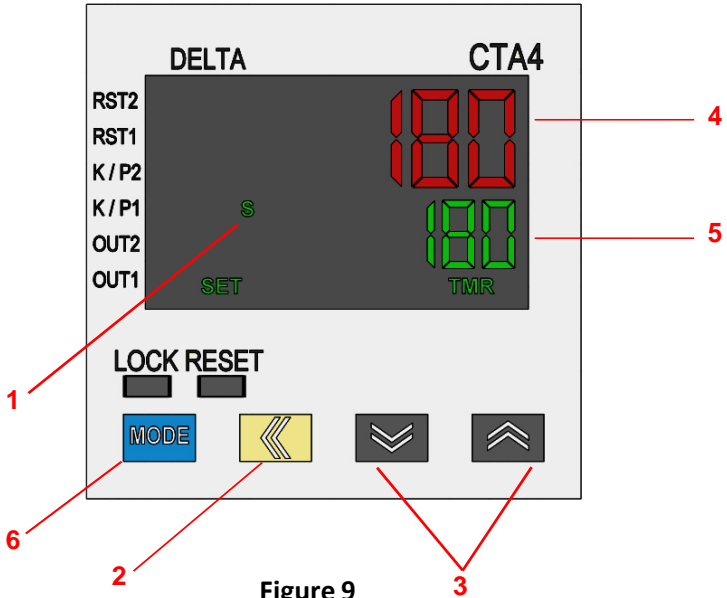

Figure 9
3. Press the yellow, left arrow button (Item 2, Figure 9) to enter the set mode. The first digit to the right column on the Set Value Display (Item 5, Figure 9) will begin to flash.
4. Press the UP or DOWN arrow buttons (Item 3, Figure 9) to set the first digit on the selected column.
7. Once desired set value time is showing on the display, press the blue MODE button (Item 6, Figure 9) to set the time.